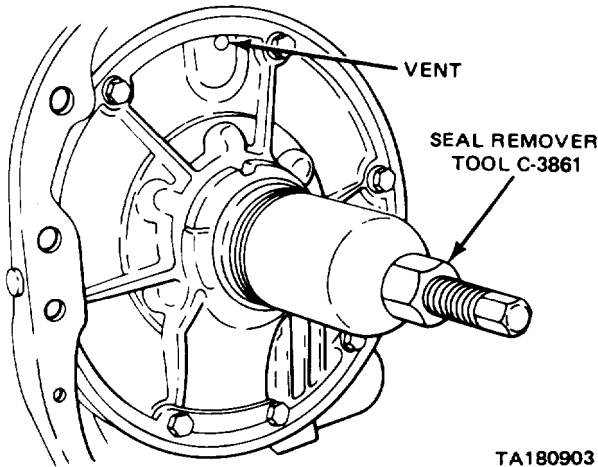

Figure 4-40. Removing Pump Oil Seal.
(1) Remove the transmission from the *vehicle*
(2) Screw a seal remover (tool C-3861) into the seal as shown in figure 4-40.